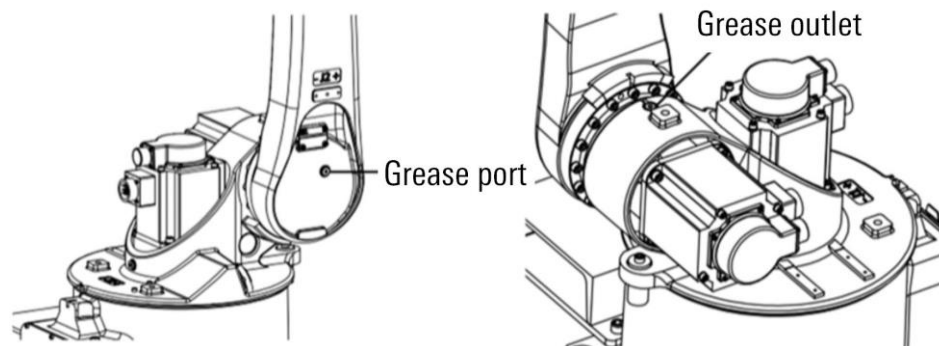

Figure 12-7 AIR10-1720B replacement of J2 axis reducer grease
- Step4. Remove the grease outlet M10x1 plug, as shown in Figure 12-7.